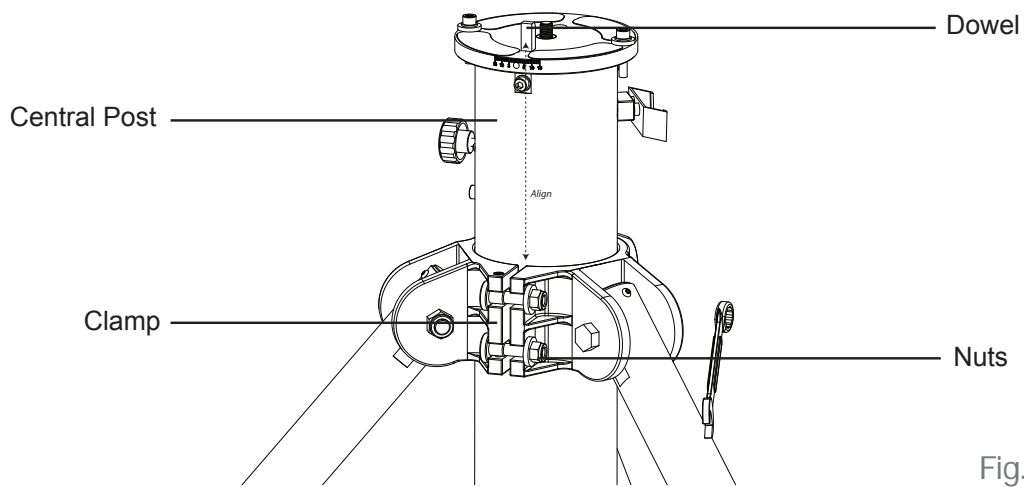

Fig. 1.1c
3. Fully release the clamp of the central post by loosening the two hex nuts on it with a 19mm hex wrench (Fig 1.1c).
4. After the clamp is fully released, rotate the central post in the clamp to roughly align the dowel on the tripod top with the gap of the clamp. (Fig 1.1c)
- Slide the central post up/down in the clamp (Fig. 1.1c) to the proper height and then tighten the 3 thumb screws on the spider trusses to prevent the central post from falling.